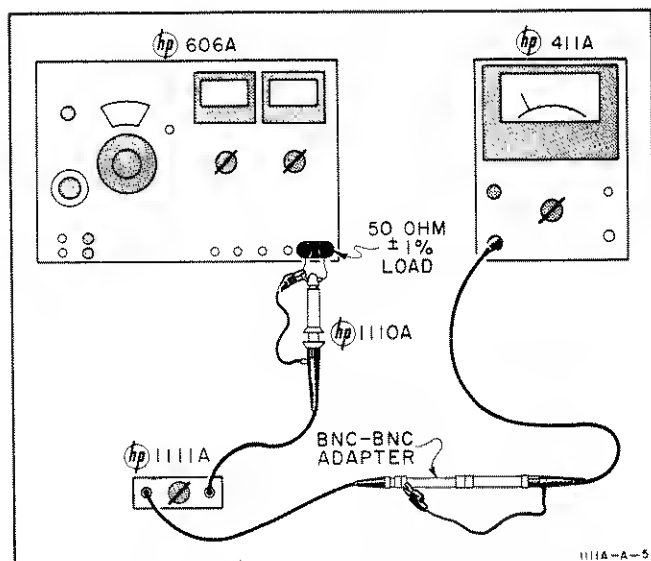

Figure 5-3. Signal Generator - RF Millivoltmeter Test Setup
h. Disconnect test setup. Refer to Figure 5-3 and Table 5-1 and connect test equipment specified, using items 1, 3, 5 and 9.